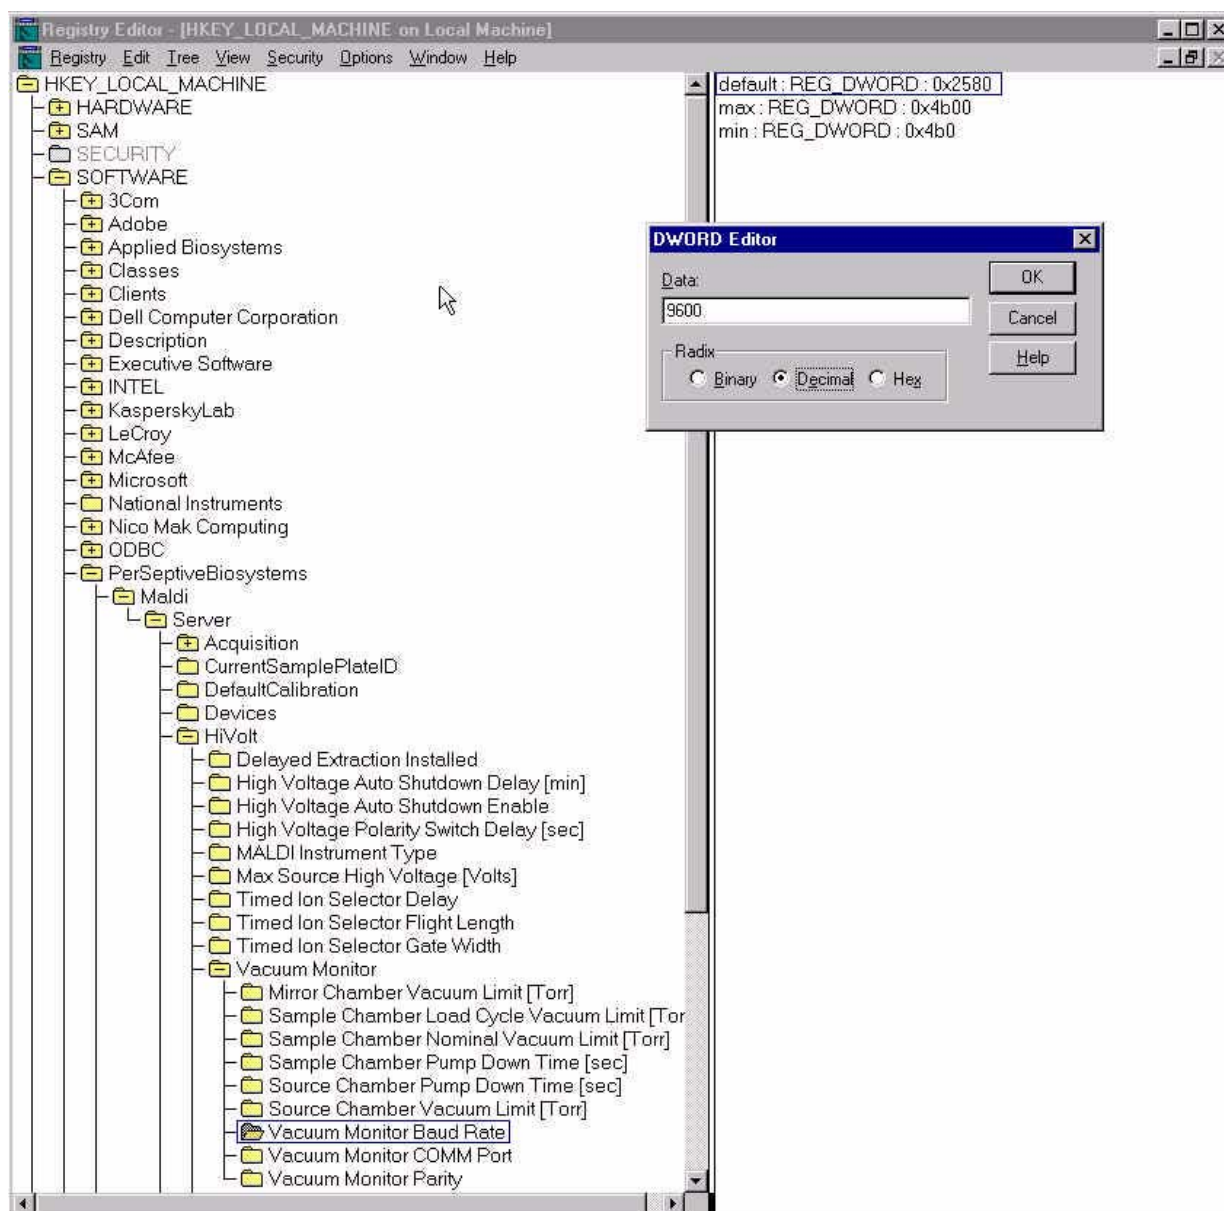

Figure 5-32 Path to the Vacuum Monitor Baud Registry Setting
2. Check the Voyager vacuum monitor baud rate setting in the registry by selecting the following path in the left panel of the Registry Editor window (Figure 5-32 on page 4-49):